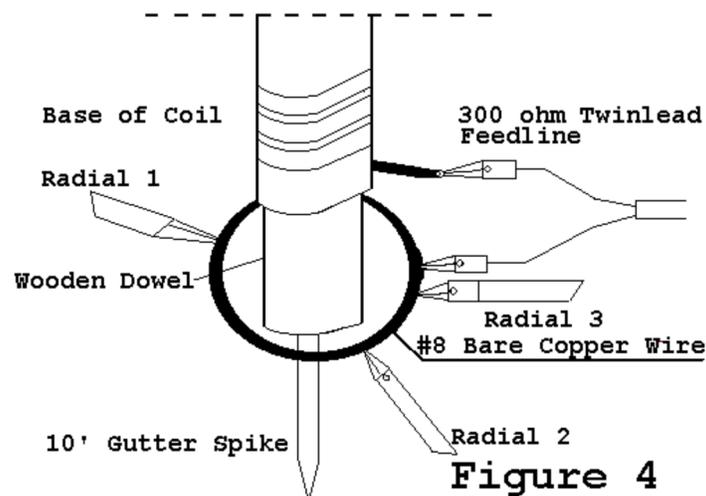

Figure 4
4. Attach the radials to the ground bus. Attach the feedline to the radiator and to any point on the ground bus. See Figure 4.